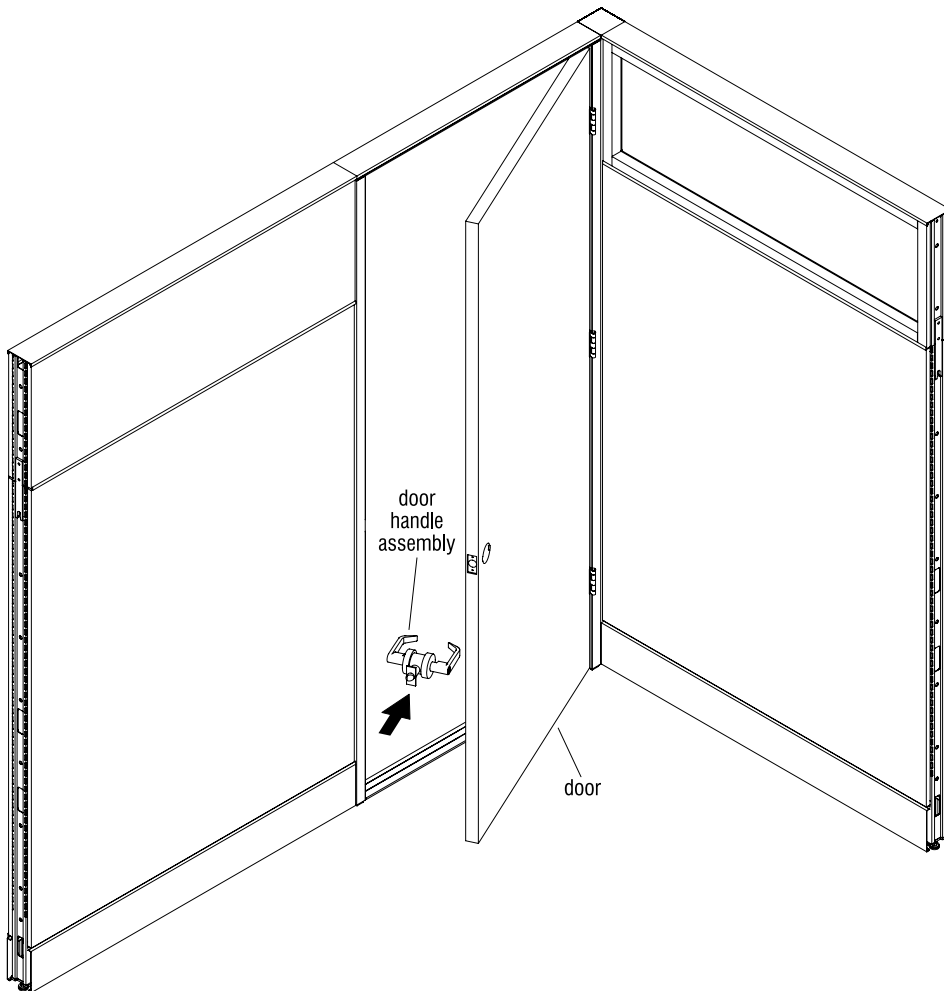

Figure 9
24. Instructions for door handle installation should be located inside the handle kit. Two types of handles are available: (1) Passage and (2) Key Lock. If key entry is used, determine which side the key should be located (typically the outside) and install appropriately according to instructions (Figure 9).